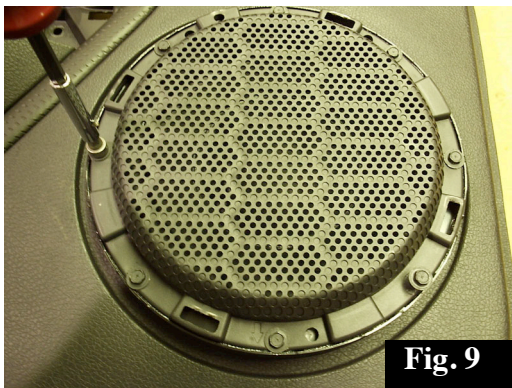

Fig. 9
10. Remove eight, 7mm screws securing the factory woofer to the door. Fig. 9